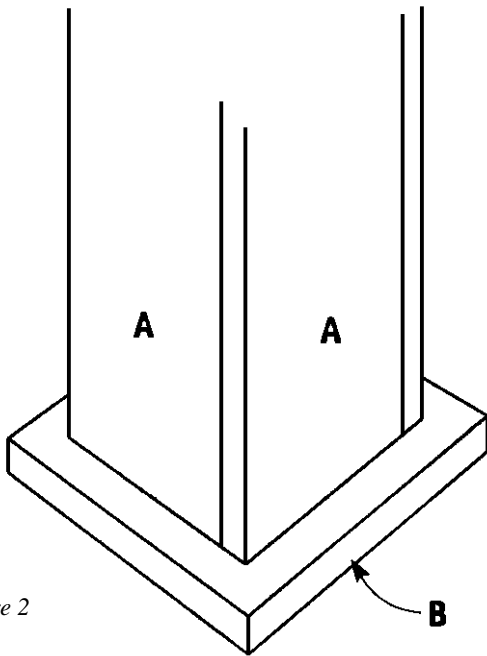
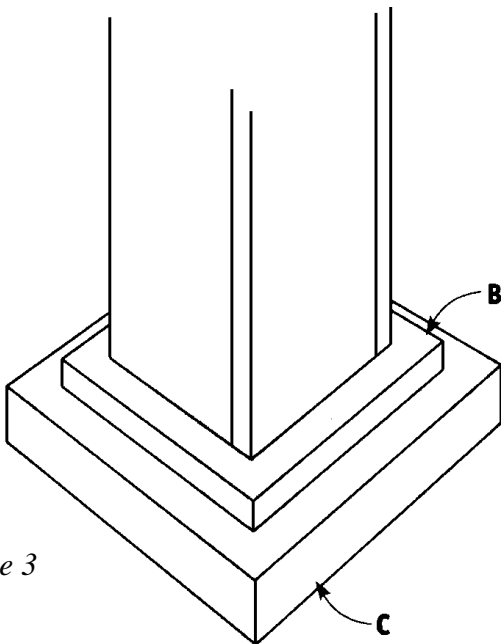

Figure 2
Figure 3
4. Cut eight Small Bases (B) from 1 x 8 pine, each measuring 7-1/4 inches.
5. Cut eight Large Bases (C) from 2 x 10 pine, each measuring 9-1/4 inches long
6. Center one Small Base (B) over one end of an assembled column, as shown in *Figure 2*. Apply glue to the meeting surfaces, and nail through the Small Base (B) into the assembled column using eight 1-1/2" finishing nails.
7. Repeat Step 6 to attach a second Small Base (B) to the opposite end of the same column.
8. Repeat Steps 6 and 7 three more times to attach the remaining seven Small Bases (B) on both ends of each of the remaining columns.
9. Place one Large Base (C) on a flat level surface (preferably the floor, due of the height of the columns). Center one assembled column with the Small Bases (B) attached, over the Large Base (C) as shown on *Figure 3*. Apply glue to the meeting surfaces, and nail through the edge of the Small Base (B) into the Large Base (C) using eight 2" finishing nails.